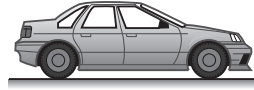

Figure P11.40 Welding of a vehicle frame.
- 11-40.** A robotic welding arm is used to join frame components of a vehicle shown in Fig. P11.40. The power settings produce an average temperature of 1200°F ,